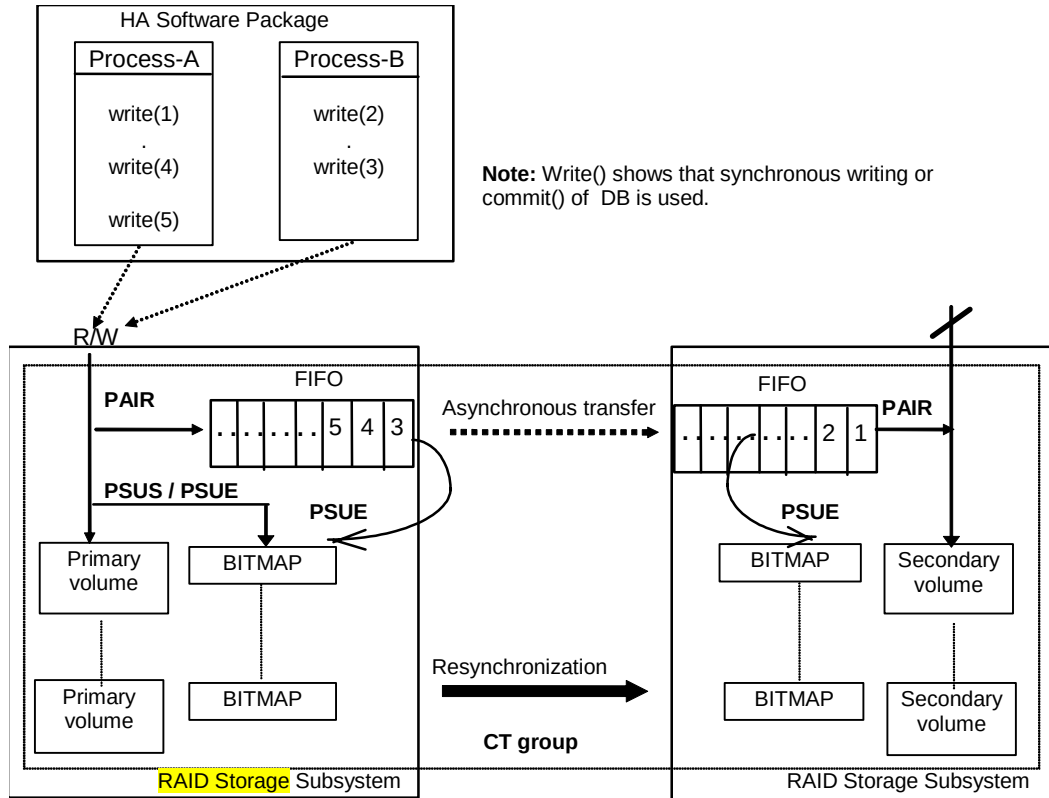

Figure 2.9 Hitachi TrueCopy Asynchronous Consistency Groups
2.4.2 Hitachi TrueCopy Asynchronous and Universal Replicator (UR) Volumes
Hitachi TrueCopy Asynchronous/UR provides paired volumes which utilize asynchronous transfer to ensure the sequence of writing data between the primary volume and secondary volume. The sequence of writing data between the primary and secondary volumes is guaranteed within each consistency (CT) group (see Figure 2.9).